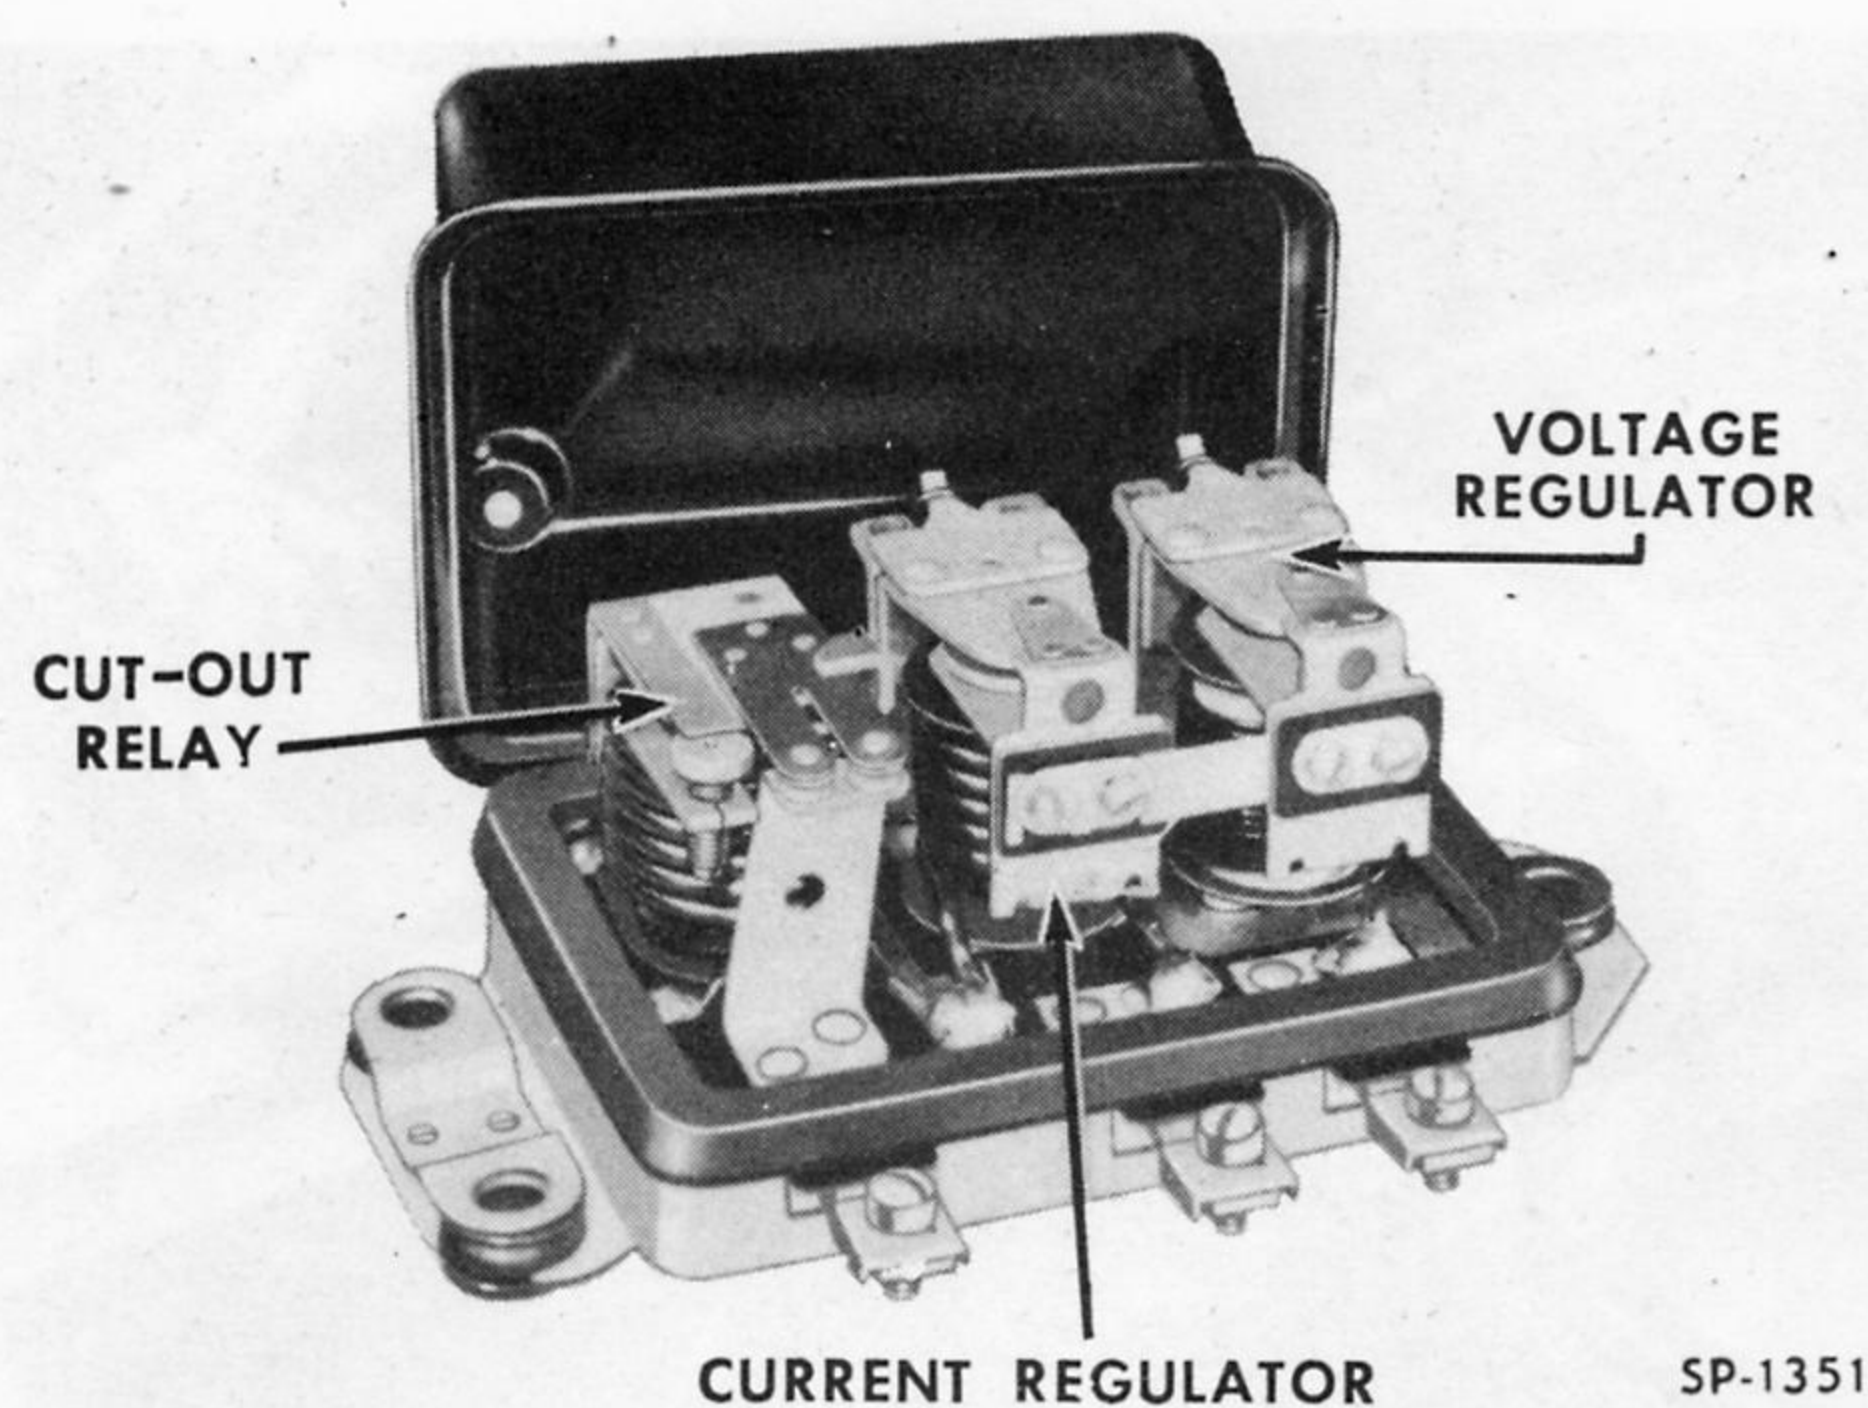
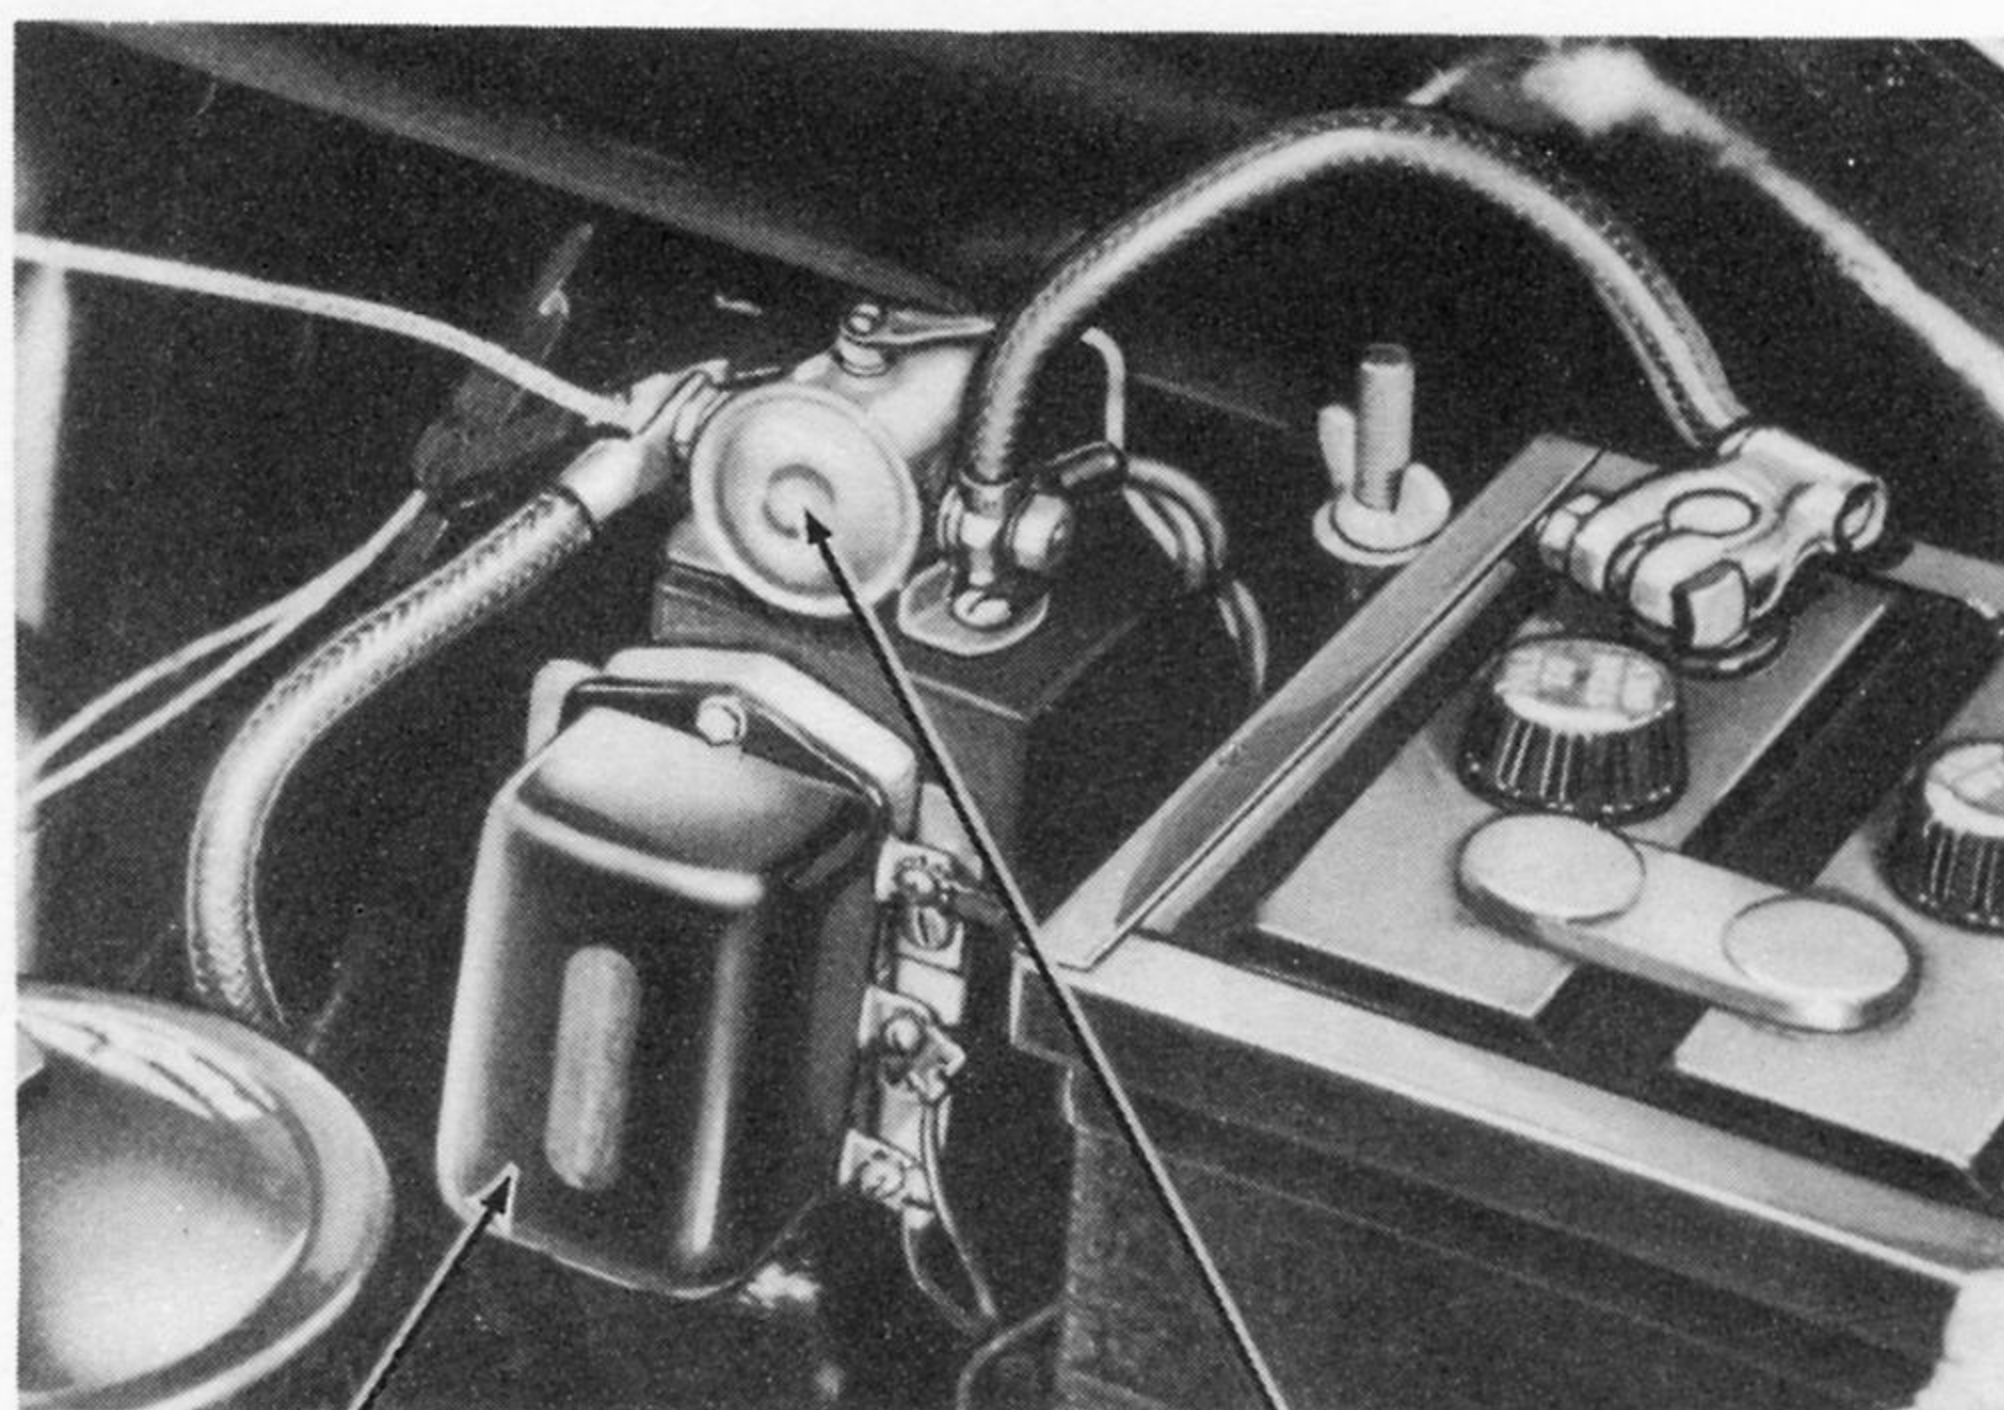

Fig. 393—Kaiser Generator Voltage and Current Regulator
Fig. 395—Generator Regulator and Solenoid Starter Switch
f. GENERATOR VOLTAGE AND CURRENT REGULATOR. The generator regulator (Figs. 393 and 394) is mounted under the hood, on the left splash shield, immediately behind the battery. Location of the regulator in Kaiser models is similar to the Frazer which is shown in Fig. 395. In this regulator are three units, each having its own function.